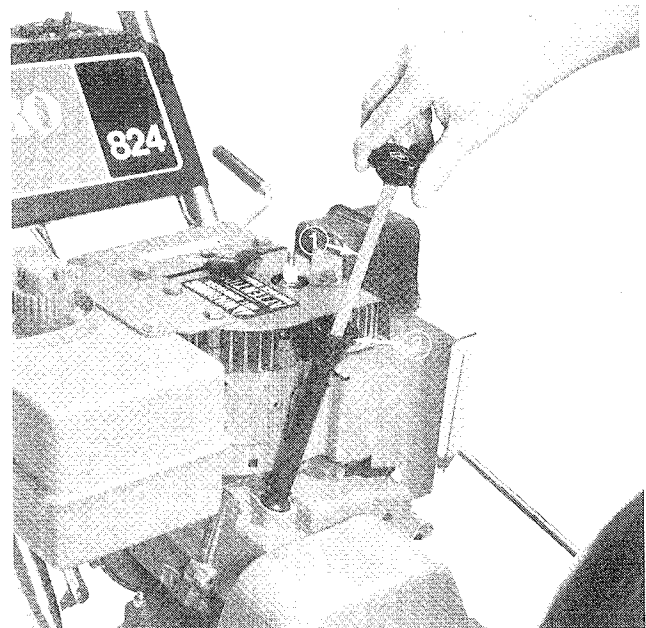

Figure 12
3. Remove dipstick from crankcase (Fig. 12).